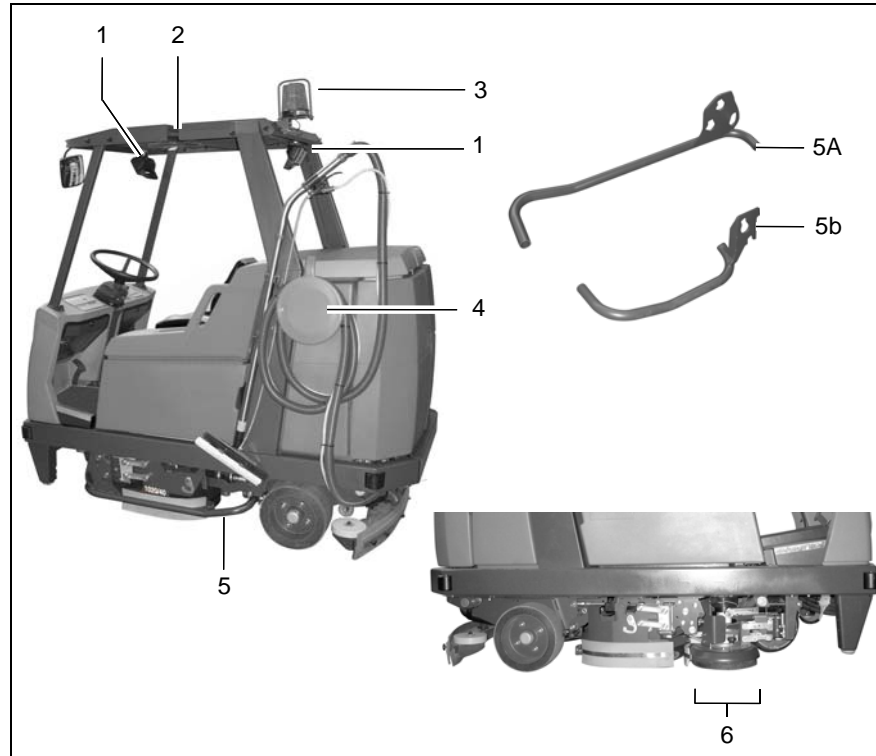

Fig. 14
- **Working lights (Fig. 14/1)** (7584.02)
- **Cab safety roof (Fig. 14/2)** (7582)
- **Flashing beacon (Fig. 14/3)**
- **Spraying/Vacuuuming tool (Fig. 14/4)**
- **Hand-held vacuuum cleaner (Fig. 14/4)**
- **Side collision protection (Fig. 14/5)**
- **Side scrubbing unit (Fig. 14/6) (7586.02)**